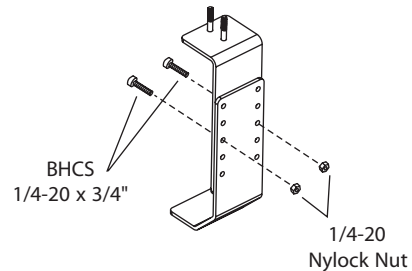

Figure 4-22
4. Attach brackets together and fasten using supplied hardware. **See Figure 4-22.**